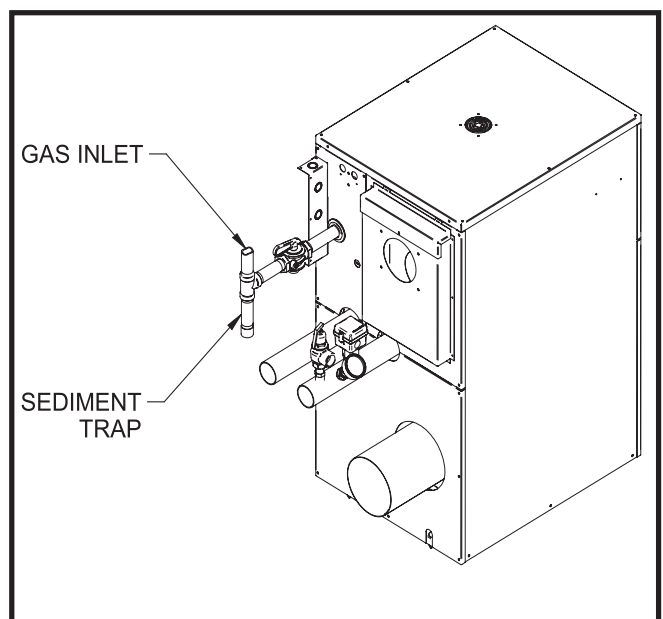

FIG. 27 Gas Line Connection with Sediment Trap and Manual Main Gas Shut-off Valve
5. Install a sediment trap in the supply line to the units gas inlet (see Fig. 27).